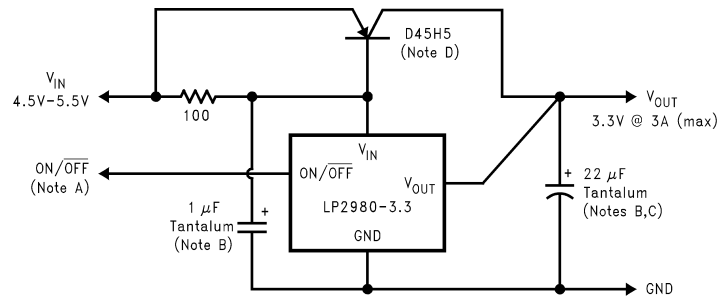
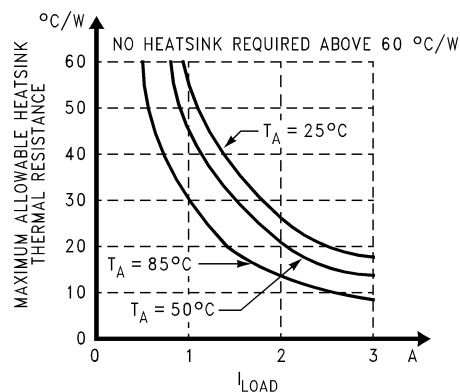

Figure 41. 5V to 3.3V @ 3A Converter
Figure 42. Heatsink Thermal Resistance Requirements for Figure 41
With limited input voltage range, the LP2980-N can control a 3.3V, 3A regulator with the use of a high current-gain external PNP pass transistor as shown in Figure 41. If the regulator is to be loaded with the full 3A, heat sinking will be required on the pass transistor to keep it within its rated temperature range. Refer to Figure 42. For best load regulation at the high load current, the LP2980-N output voltage connection should be made as close to the load as possible.
4. A heatsink may be required for this transistor. The maximum allowable value for thermal resistance of the heatsink is dependent on ambient temperature and load current (see curves in Figure 42). Once the value is obtained from the graph, a heatsink must be selected which has a thermal resistance equal to or lower than this value. If the value is above 60°C/W, no heatsink is required (the TO-220 package alone will safely dissipate this).